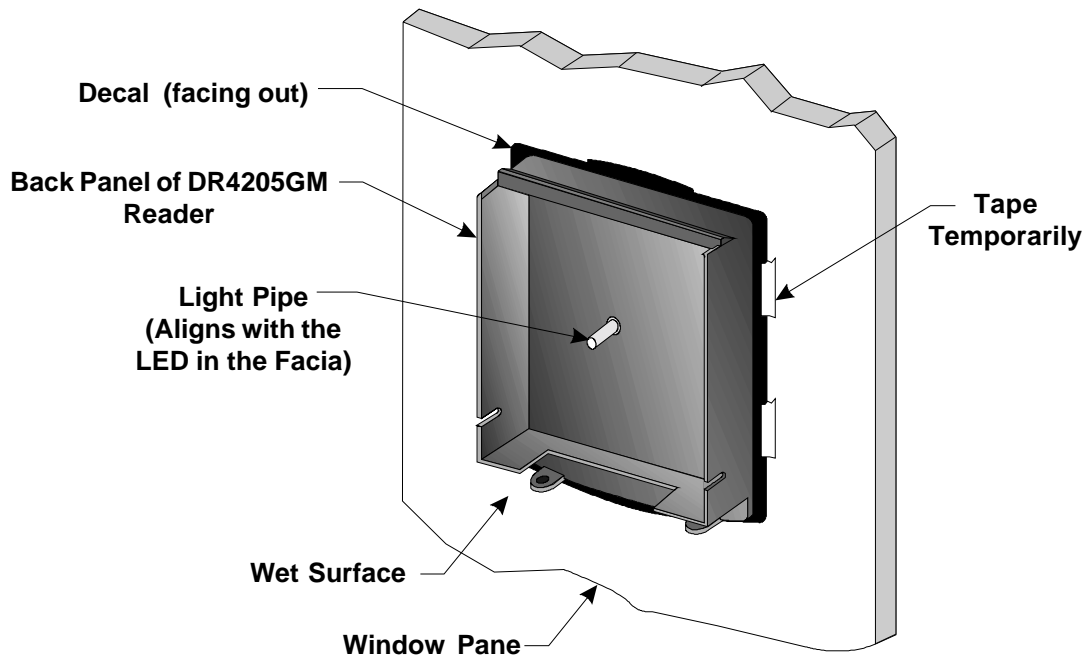

Figure 13: DR4205GM: Placement of Decal and Reader onto Glass
6. Secure the cover as shown in Figure 13.